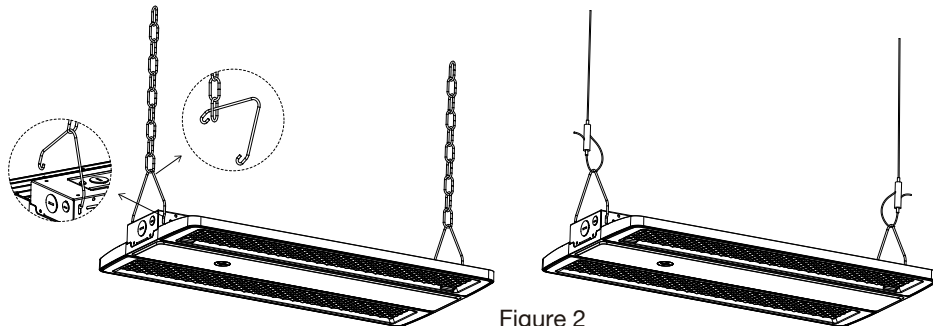

Figure 2
- Step 1. Hook up the chain; (Figure 2)
- Step 2. Connect the chain with fixture; (Figure 2)
- Step 3. Fix the chain on the rail, adjust the chain length as per need; (Figure 2)